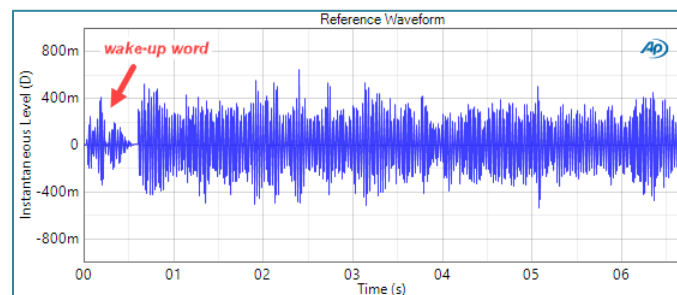

Figure 10. Waveform of wake-up word followed by speech chatter used to stimulate the smart speaker input system.
4. Using an audio waveform editor, prepend the smart speaker wake-up word followed by a short period of silence to the speech stimulus signal (Figure 10).